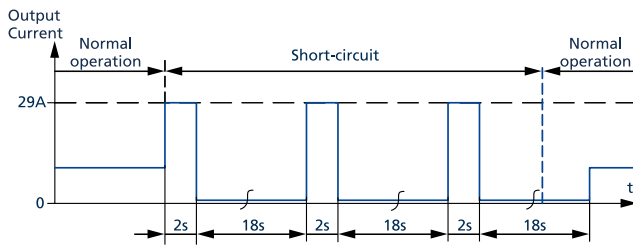

Fig. 6-3: Short-circuit on output, Hiccup^{PLUS} mode, typ.
- 2) At heavy overloads (when output voltage falls below 13V), the power supply delivers continuous output current for 2s. After this, the output is switched off for approx. 18s before a new start attempt is automatically performed. This cycle is repeated as long as the overload exists. If the overload has been cleared, the device will operate normally. See Fig. 6-3.